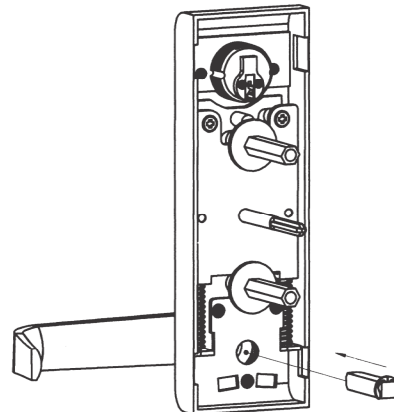

Fig. 2
2. Insert the square spindle into the hub. (See Fig. 2.)